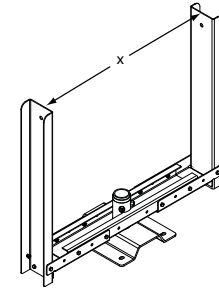

Figure 13 — Fan Width Dimension For Ceiling-Mount Bracket
3. Refer to the table and Figure 13 for appropriate fan width. Align the Rotating Hub between the Arm Sections, slide Arm Section either direction to desired width. Fasten using (4) 5/16 x 3/4 inch fasteners on each side of the Rotating Hub.